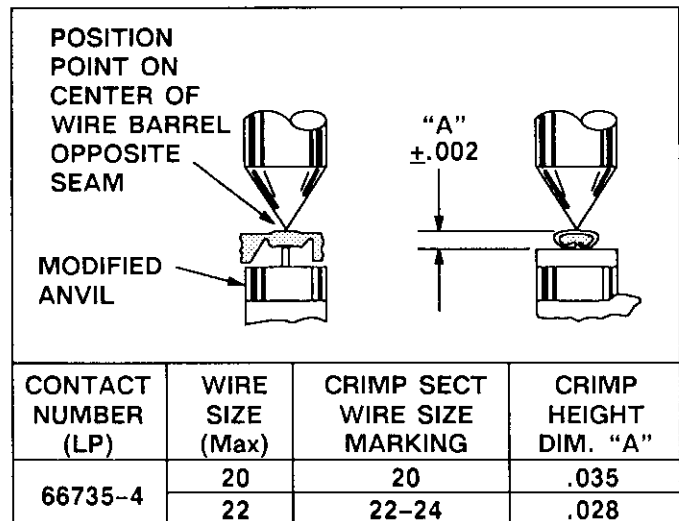

Fig. 4 200-002E
This inspection requires the use of a micrometer with a modified anvil as shown in Figure 4. We recommend the modified micrometer (Crimp Height Comparator RS-1019-5LP), which can be purchased from:
1. Refer to the table in Figure 4, and select a contact and a wire (maximum size) for each crimp section listed in the table.
3. Using the crimp height comparator, measure the wire barrel crimp height as shown in Figure 4. If the crimp height conforms to the specifications given in Figure 4, then the tool is considered dimensionally correct. If not, return the tool to
1. Refer to Figure 4 and select a contact and wire (maximum size).